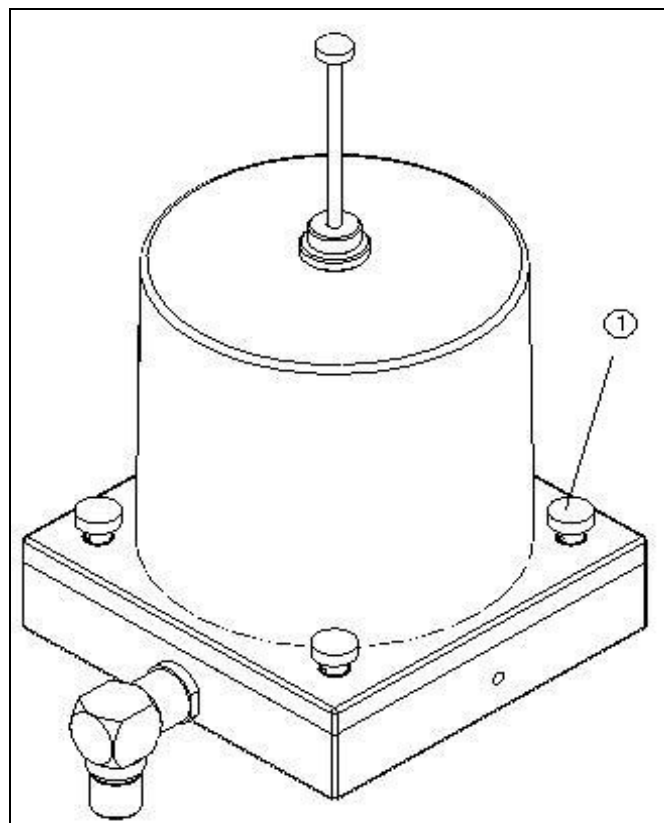

Figure 1: Location of knurled screws
1. Loosen the four knurled screws (labelled (1) in Figure 1) and remove the bellows canister